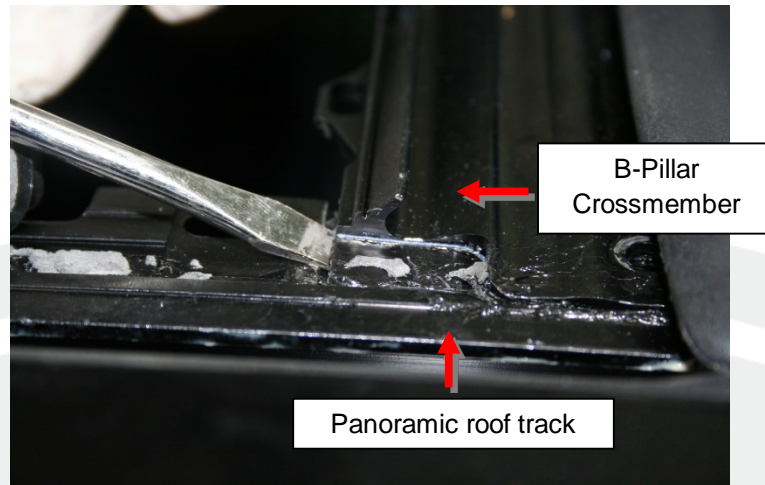

Figure 33 (LH side shown)
8. Use a screwdriver to gently pry apart the B-Pillar crossmember from the panoramic roof track (Figure 33).